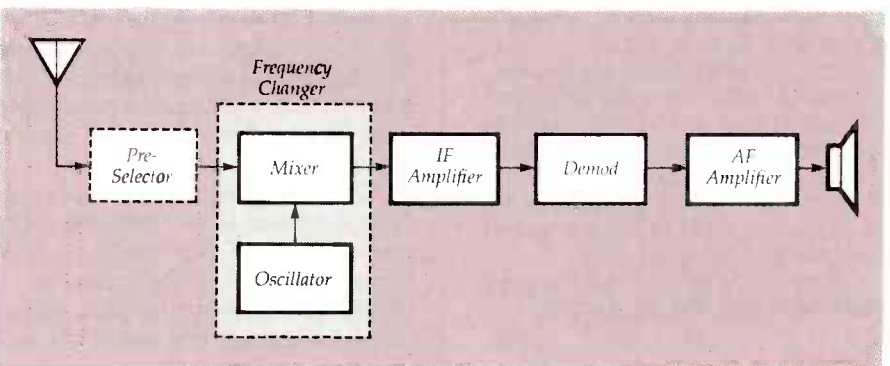

FIG. 11—BLOCK DIAGRAM of a super heterodyne receiver.
A block diagram of a basic superheterodyne receiver is shown in Fig. 11. The preselector consists of one or more tuned RF stages, but in less expensive receivers it is often omitted. As in the heterodyne receiver, the incoming signal is fed to a mixer, where it beats with a signal supplied by a local oscillator. However, unlike the heterodyne receiver, the local oscillator is designed so that the difference frequency is on the order of several hundred (or more) kHz. Known as the *Intermediate Frequency* (IF), the difference signal is then amplified, demodulated to recover the audio signal, and then the audio is amplified again. The great advantage of the superheterodyne design was, and still is, the large amount of selectivity that can be supplied by the IF stages, which are fixed-tuned to a selected frequency. **R-E**